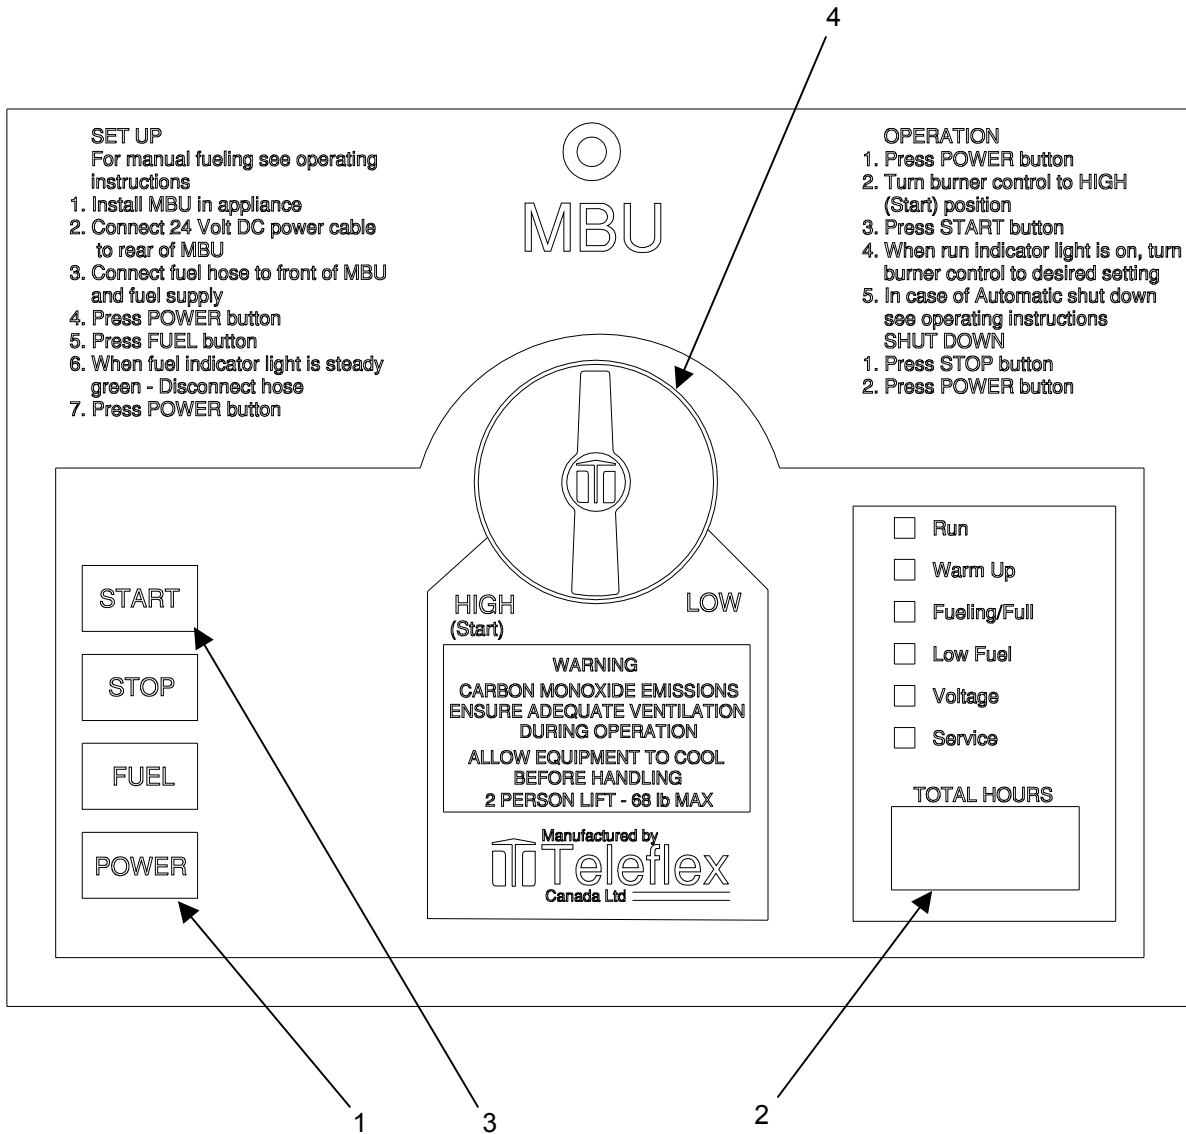

Figure 3. Calibrate the Controller Assembly (MBU only)
2. Press and HOLD the Power button (**figure 3, item 1**) until the power-up routine is complete (approximately 3 seconds) and the hour meter (**figure 3, item 2**) displays CAL?
3. Release the Power button (**figure 3, item 1**).
4. Press the Start key (**figure 3, item 3**). The hour meter (**figure 3, item 2**) will display CAL
5. Turn the Burner Control Knob (**figure 3, item 4**) through its complete rotation from HIGH (Start) to LOW.